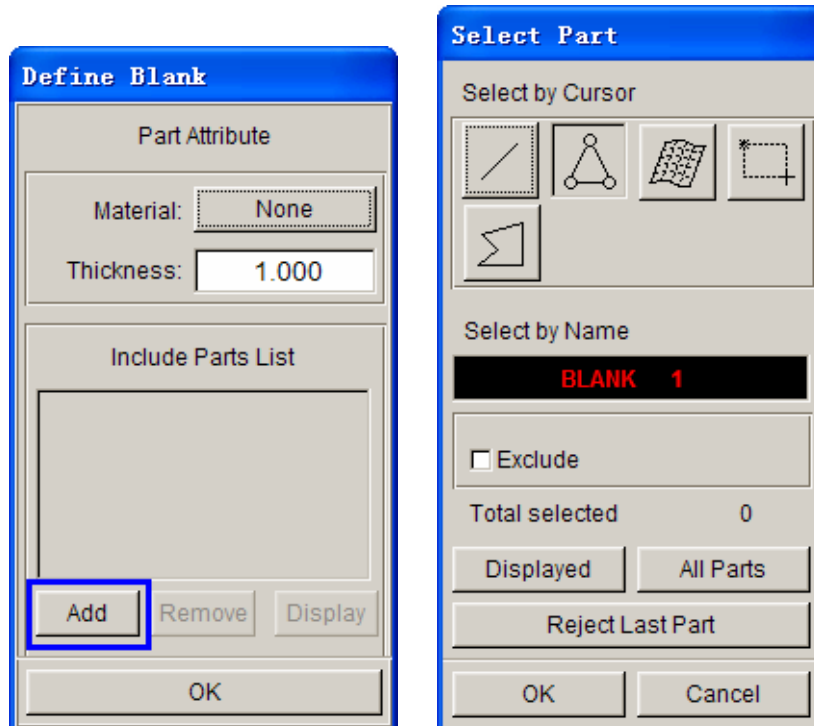

Figure 2.21: Define blank dialog box Figure 2.22: Select part dialog box
- 1) Select **Sheet** button in **MSTEP** interface to display the **Define Blank** dialog box illustrated in Figure 2.21.